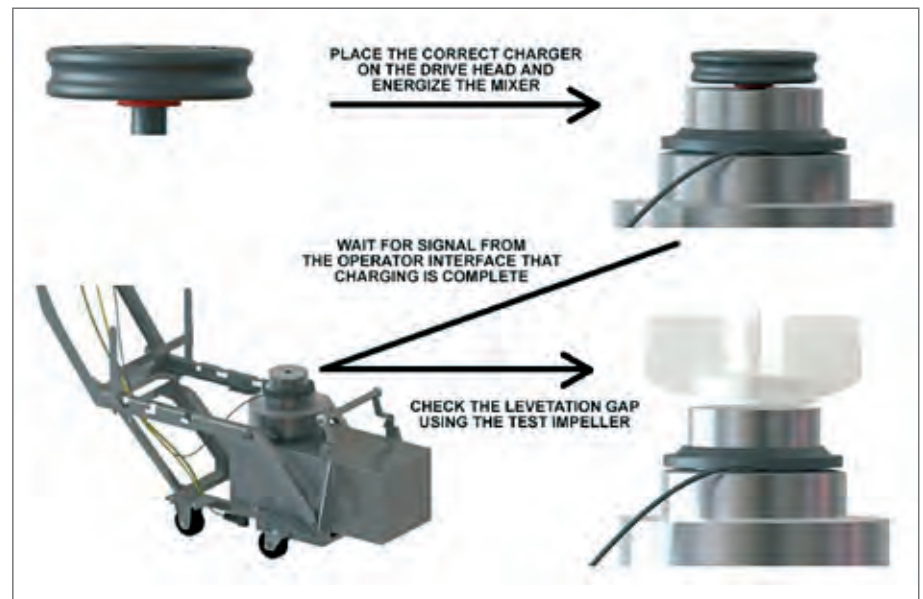

Figure 40 Superconductor charging sequence
3. Remove the protective shield from the magnetic charger and place the charger, bearing end down, on the levitation head as shown in figure 40.